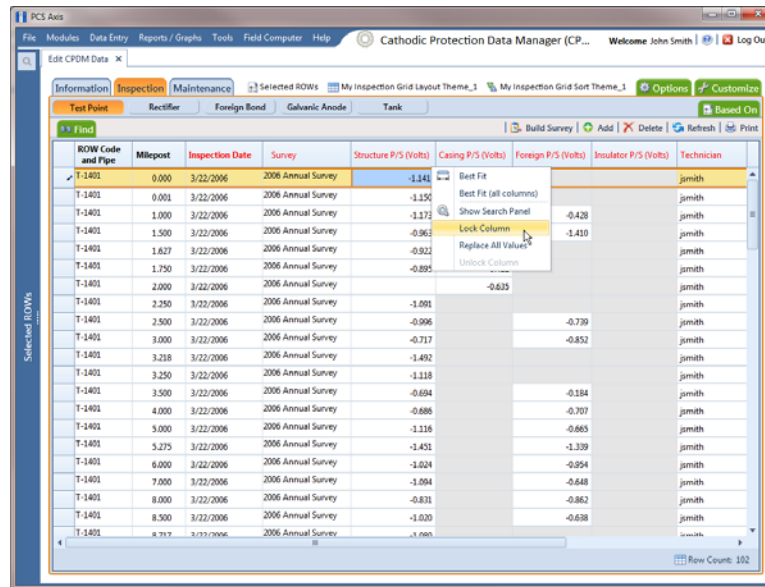

Figure 6-2. Lock Grid Column
- Right-click a grid column and then select **Lock Column** in the shortcut menu that opens (Figure 6-2, page 165).